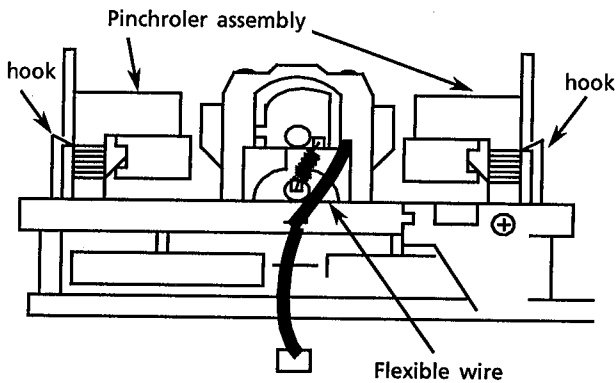

Fig 16 Cassette mechanism bottom view
3. Remove the 6 screws (J) holding the bracket.
5. Put the cutting on the flywheel A together the bracket's pawl as shown in Fig. 16(Flywheel A) and check that the flywheel B is removed from the bracket's pawl(Fig. 16-Flywheel B).